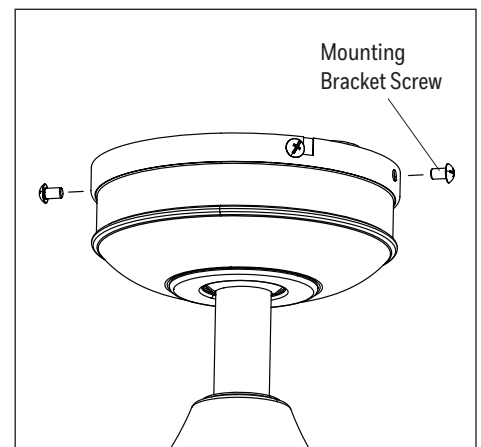

Figure 5.3
3. Install the two previously removed mounting bracket screws in the round holes. Securely tighten all mounting bracket screws (Figure 5.3).